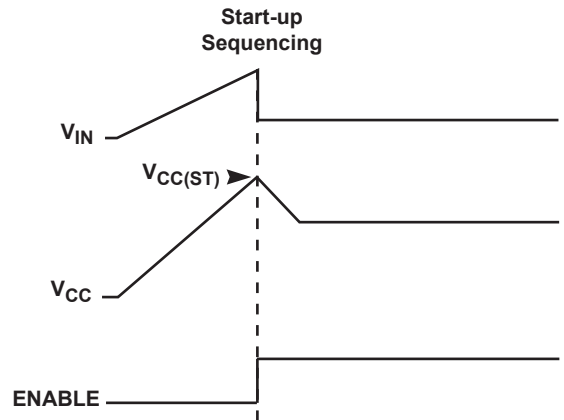

Figure 9.7 : Start-up Sequencing Diagram
Prior to start-up the V_{IN} pin charges up the V_{CC} capacitor through a diode between V_{IN} and V_{CC} . When V_{CC} is fully charged to a voltage higher than the start-up threshold $V_{CC(ST)}$, the ENABLE signal becomes active and enables the control logic, shown by Figure 9.7. When the control logic is enabled, the controller enters normal operation mode. During the first 3 half AC cycles, OUTPUT(TR) keeps high. After the dimmer type and AC line period are measured, the